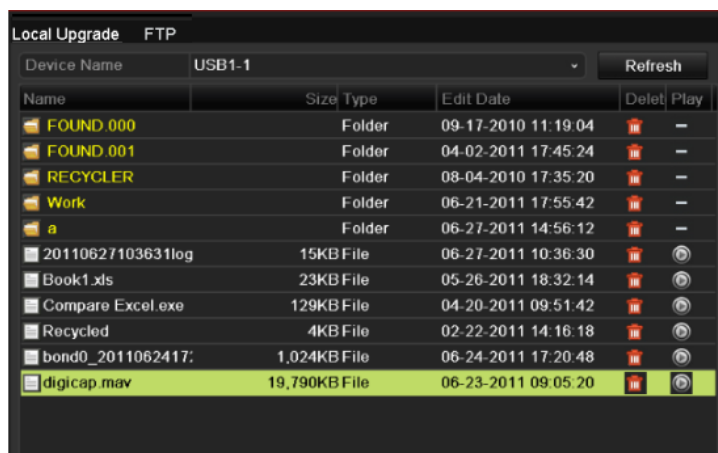

Figure 14. 7 Local Upgrade Interface
3. Click the **Local Upgrade** tab to enter the local upgrade menu, as shown in Figure 14. 7.